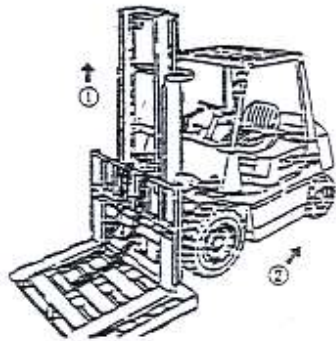

Figure 2-40
- (1) Place a salver on fork and park forklift on level ground
- (2) Lower fork and salver to ground
- (3) Dismantle upper end connector of chain and take off chain from chain wheel.
- (4) Lift inner mast (See ① Of Figure 2-40)
- (5) Make sure that fork carrier is separated from outer mast,back forklift (see ② of figure 2-40)
- (6) Replace Main Roller
- (A) Dismantle all spring retainer rings, take off main roller with drawing tools.notice to hold adjusting shim
- (B) Make sure that new roller is the same to the one to be replaced, fit new roller on fork carrier and clamp it well with elastic collar.